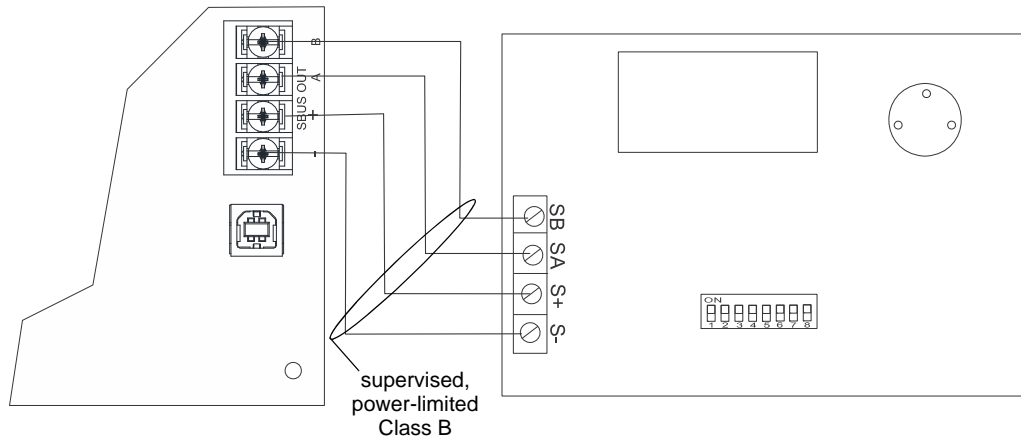

Figure 4.16 RA-100 Connection to the Panel
7. Wire the annunciator board to the main control panel. Refer to Figure 4.16.
7. Run wires to the control panel. Refer to Figure 4.16.